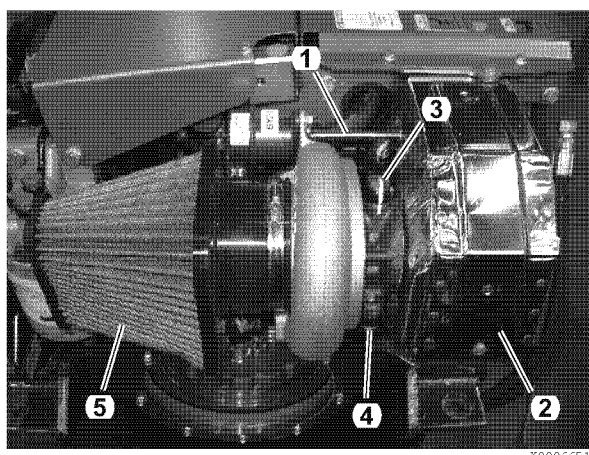

Figure 9-2
1. Remove air filter (5, **Figure 9-2**).
2. Disconnect wastegate control rod (1, **Figure 9-2**).
3. Remove the insulating cover (2, **Figure 9-2**).
4. Disconnect the lubrication supply line (3, **Figure 9-2**) and return line (4, **Figure 9-2**) from the turbocharger.